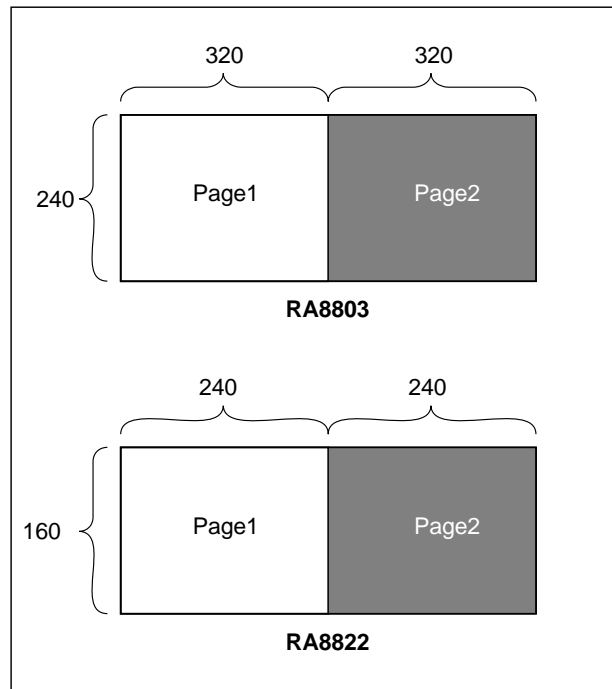
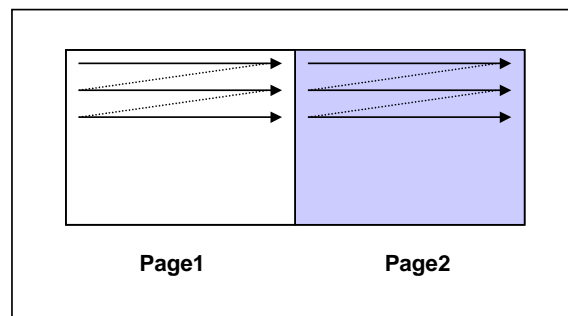

Figure 9-30 : Extension Mode(1) Register MAMR bit[6:4] = 110h
Figure 9-32 : Extension Mode(1) Cursor Moving
The RA8803/8822 support a special display mode – Extension mode. In this mode the DDRAM of Page1 and Page2 could display on bigger panel. When the Register MAMR Bit[6:4]=110b, the RA8803 support up to 640x240 dots LCD panel. And RA8822 support up to 480x160 dots panel. The left side of screen shows the content of DDRAM Page1. The right side of screen shows the Page2 of DDRAM. Please refer the Figure 9-30.
There is some limitation on Extension Mode. For example, if RA8803 set to Extension Mode(1) as Figure 9-30 for 640x240 dots panel. The data have to write into Page1 and Page2. But the cursor moving of Common is not from 0 to 639. The used have to separate the screen into 2 blocks and write data into Page1 and Page2 to create a complete 640x240 dots picture. The Figure 9-32 shows the description.